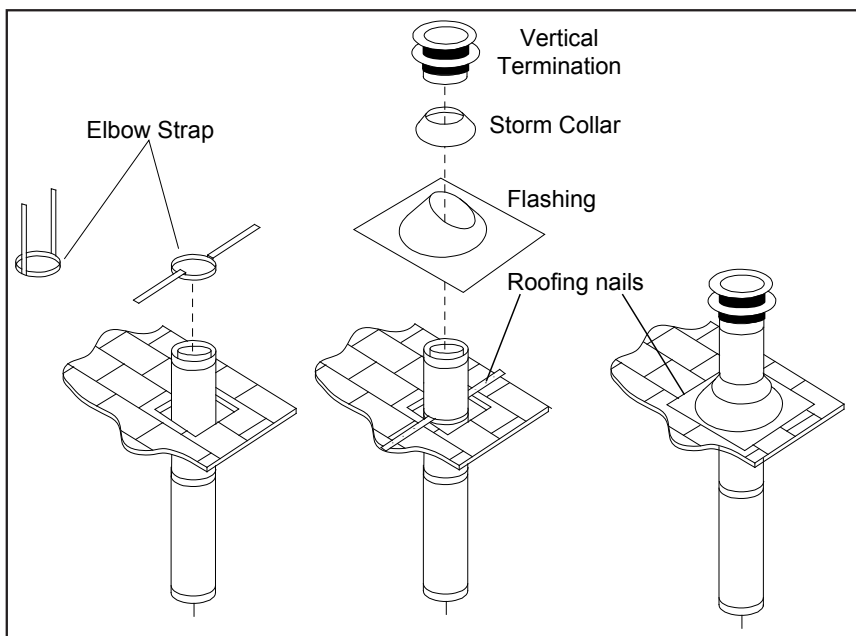

Figure 36. Vertical Vent Termination
- STEP 6.** Once the pipe sections have been joined, and run up through the hole in the roof, slip an elbow strap over the exposed sections, bend the support straps outwards, and push the elbow strap down to the roof level, as shown in Figure 36. Tighten the clamp around the pipe section. Use a level to make sure the pipe is truly vertical. With roofing nails, secure the support straps to the roof. Seal the nails holes heads with non-hardening mastic. Trim the excess length of the support straps that extend out beyond the edge of the flashing.
- STEP 9.** Slip the storm collar over the pipe, and push it down to the top of the roof flashing as shown in Figure 36. Use the non-hardening sealant around the joint between the pipe and the storm collar.